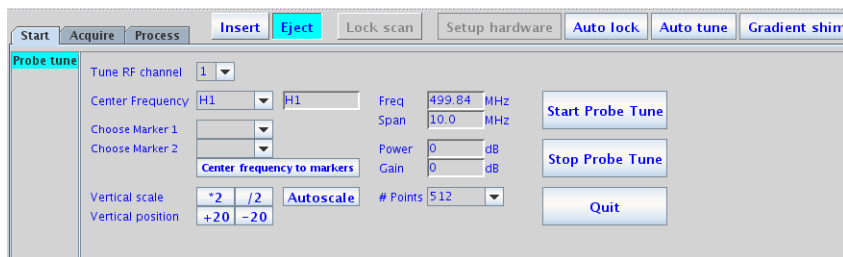

Figure 5 Manual tuning panel
Typically, probes are tuned using the Tune Interface shown in Figure 5 on page 38.
- 3 Select **Start Probe Tune** on the **Mtune** panel, see Figure 5 on page 38.
Up to two frequency markers are selectable. This is useful for tuning ^1H and ^{19}F at the same time, for example with double-tuned coils like in the ATB or 4-nucleus probe families (Figure 5 on page 38).
A span of 50 MHz is typical for showing both ^1H and ^{19}F at 400 MHz, as shown in Figure 5 on page 38.